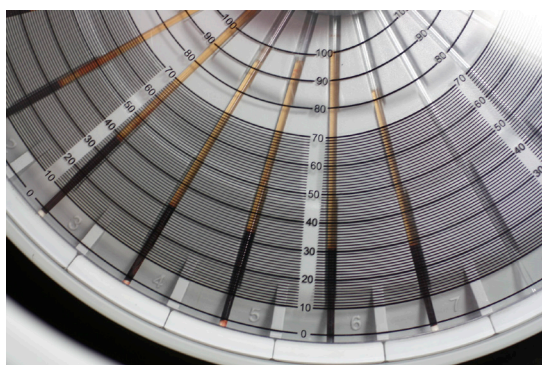

FIGURE 16
3. Place the read disc and turn it until the 100 %-line of the read disk is in line with the upper margin of the liquid column (see Figure 16).